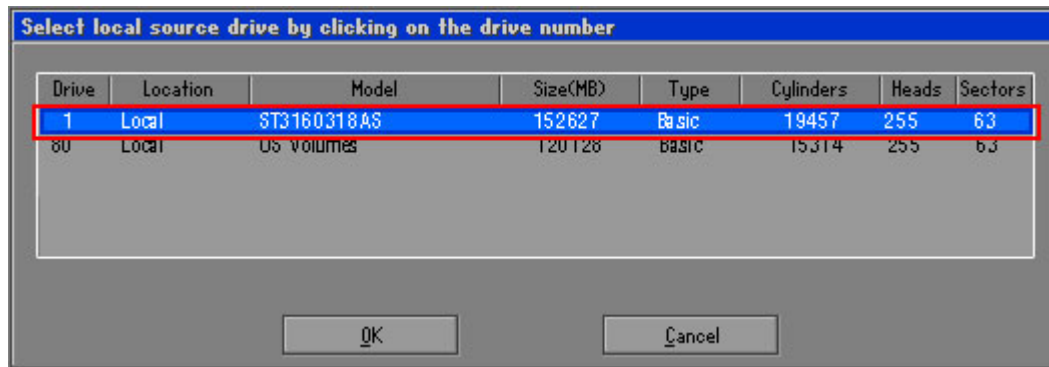

Figure C-14: Select a Local Source Drive
Step 5: Select the local source drive (Drive 1) as shown in Figure C-14. Then click OK.